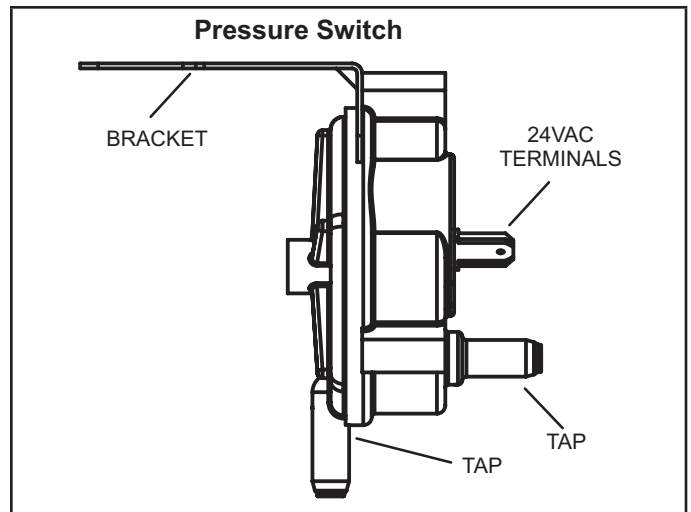

FIGURE 11
8. Combustion Air Pressure Switch (FIGURE 11)